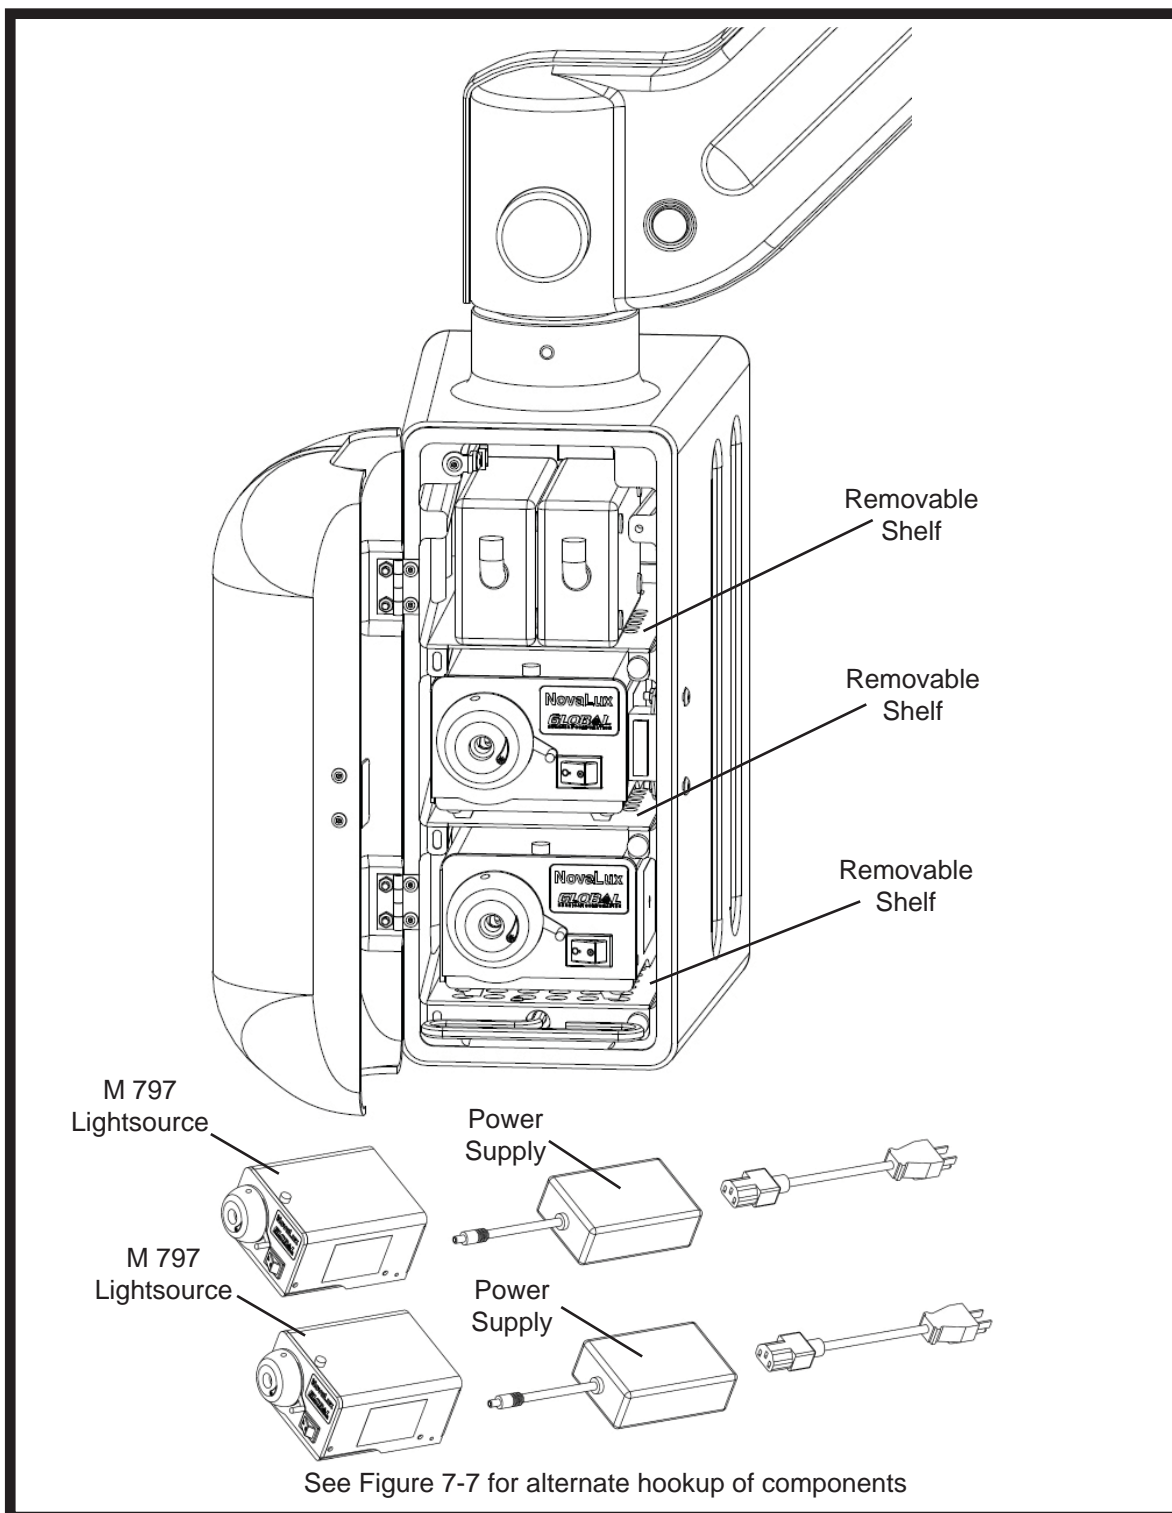

Figure 7-2. Lightsource Housing with Two M W797-725 Lightsources
The configuration used in Figure 7-2 shows the usage of two (2) M W797-725 NovaLux Lightsources and their Power Supply Modules. The schematic at the bottom shows the cable hookup.